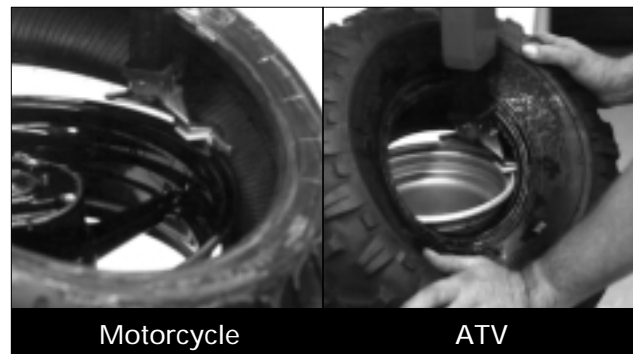

Figure 14 - Position Tire Against Mount/Demount Head
4. Place tire over wheel and move swing arm into position. Position the tire so that the lower bead is above the rear extension of the mount/demount head and below the front knob (Figure 14).